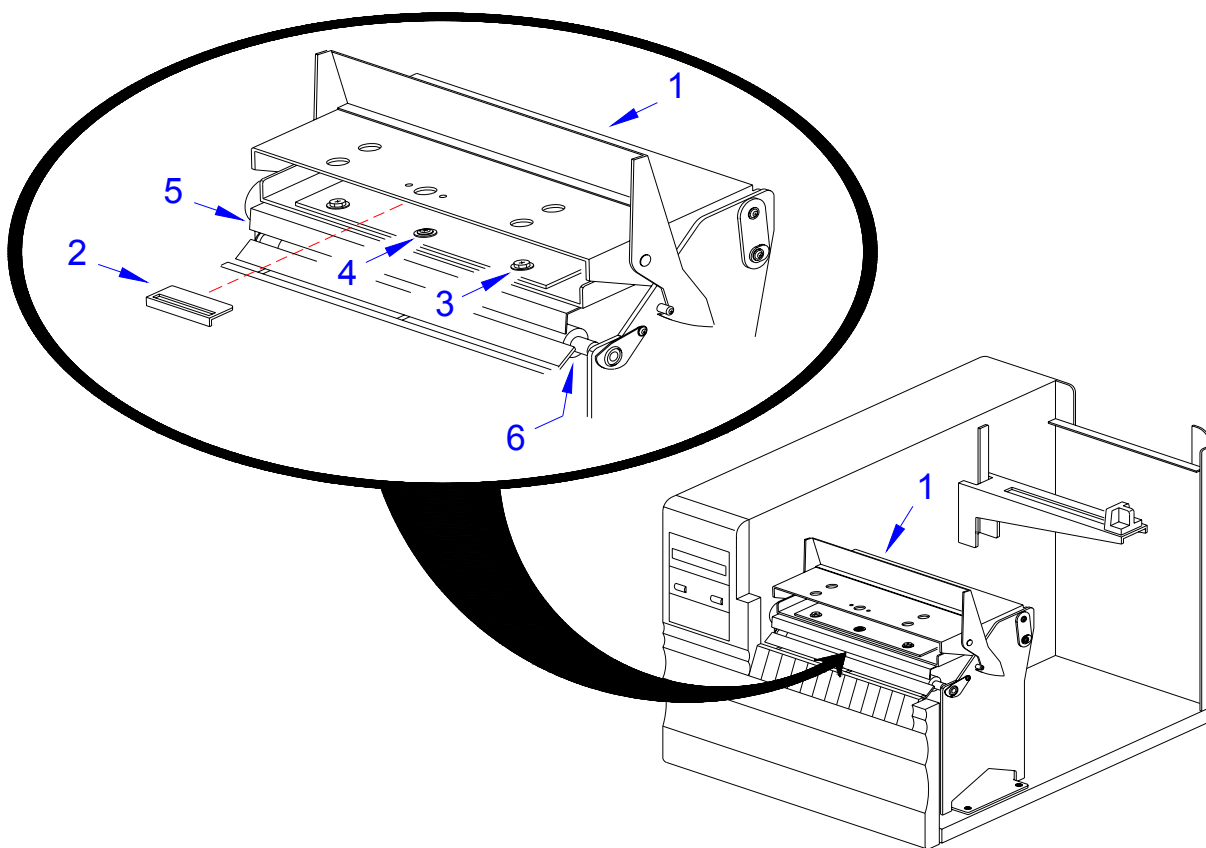

Figure 6-6, Print Head Alignment
- 2 Open the right housing cover to access and open the print assembly (1, Figure 6-6).
- 3 Detach lever guard (2), loosen two set screws (3), and one mounting screw (4).
- 4 Manipulate print head assembly (5) so that it is parallel with platen roller (6).
- 5 Secure mounting screw (4), two set screws (3), and attach lever guard (2).